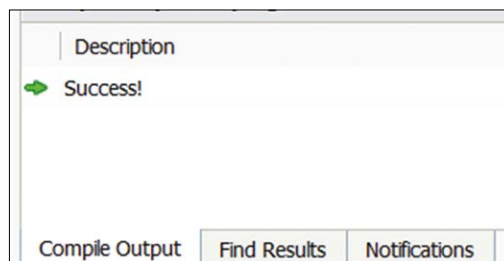
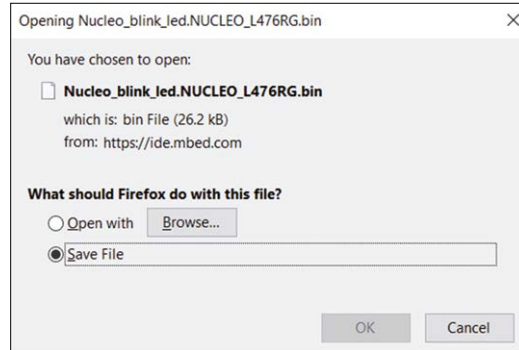

Figure 4.5: Successful programming.
Figure 4.6: Save the binary file.
- Click **Compile** to compile the program. If the program has compiled successfully you should see the message 'Success!' as in Figure 4.5. You should also see a pop-up window (Figure 4.6) asking you to save the binary file. Click **Save File** and **OK** to save the binary file in the Downloads folder of your PC.